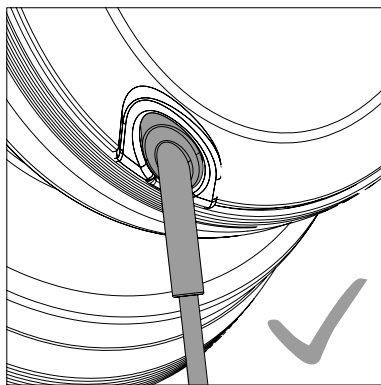

Fig. 3
- Insert the plugs until they are properly snapped into place and the plug housing is flush with the earcup (Fig. 3).